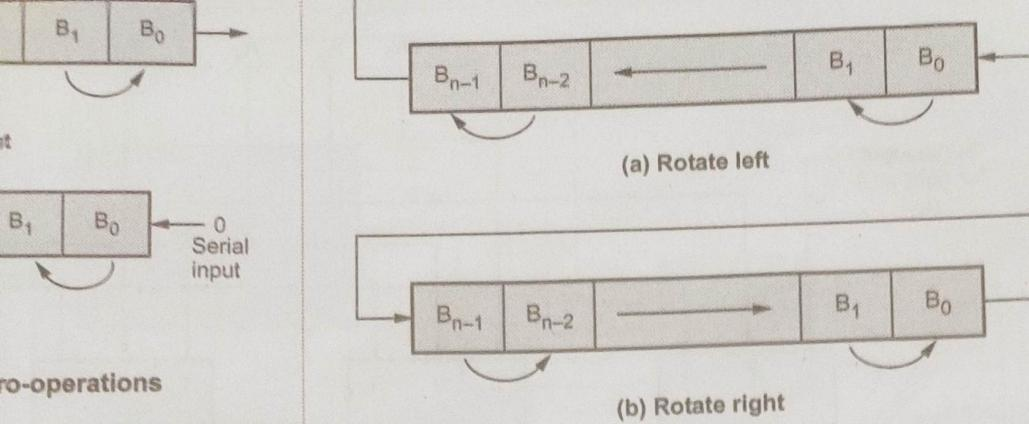

Fig. Q.30.3 Rotate micro-operations
shifted out of the micro-operations, on the They move the bit of the register back Fig. Q.30.3. The two are Rotate Left (RL) operations are also erations.